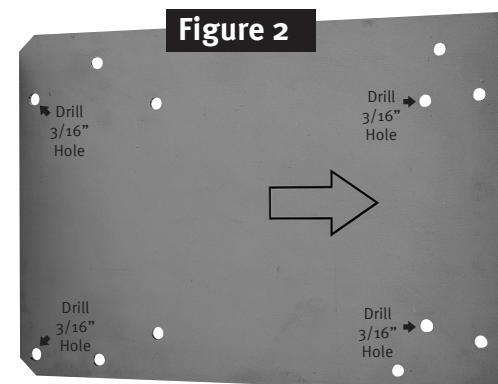

Figure 2
4. With a pencil or marker, mark the (4) holes labeled "Drill 3/16" Hole" as seen in Figure 2.
5. Remove ICM mounting plate and drill (4) holes with a 3/16" drill bit.
6. Line up the (4) plastic standoffs from the **ICM2813** with the (4) holes shown on the ICM mounting plate. These two components only connect one way.
7. With your thumb, firmly press each of the (4) standoffs until each one snaps into the ICM mounting plate.
8. With the **ICM2813** now firmly secured to the ICM mounting plate, line up the (4) standoffs with the new holes drilled in Step 5 above.
9. With your thumb, firmly press each of the (4) standoffs until each one snaps and locks into the sheet metal surface. Check to make sure all (4) standoffs are securely fastened to the sheet metal.